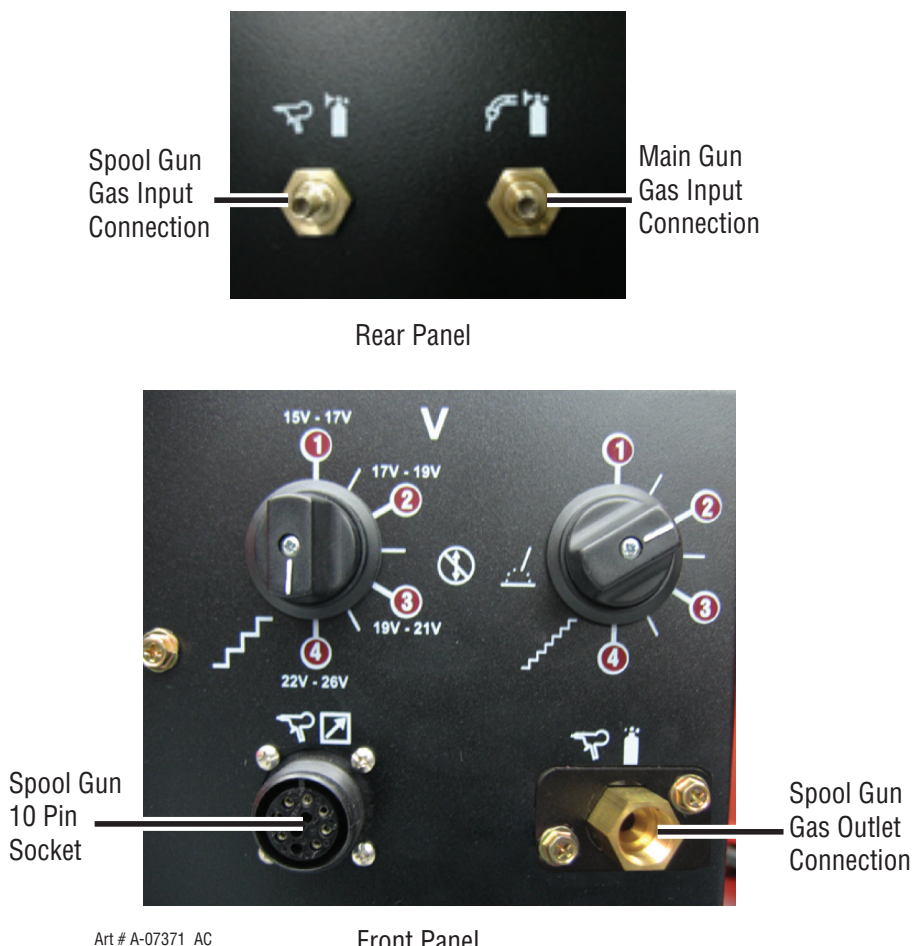

Figure 3-13 Spool Gun Connections
1. Attach appropriate input gas to the Spool Gun input gas connection on the rear of the unit. (Refer to Figure. 3-13)
2. Attach the Spool Gun control cable and gas hose to the 10 pin socket and the Spool Gun Gas Outlet on the front of the unit. (Refer to Figure. 3-13)